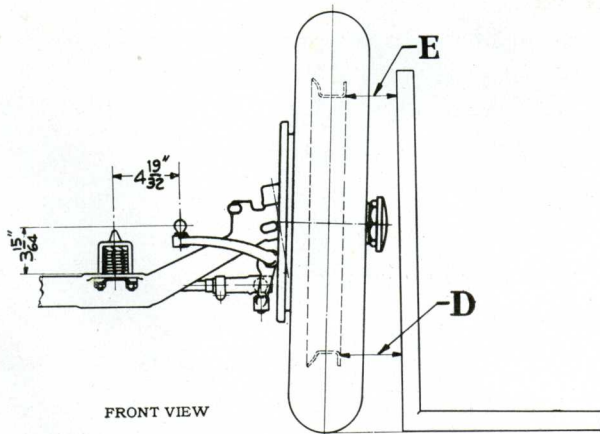

Fig. 63. Wheel Camber.
See Fig. 63.
11. CHECK HEIGHT OF STEERING ARM BALL. Steering arm ball should be  $3\frac{15}{64}$ " from spring pad. Check ball and bend steering arm if necessary to raise ball. See Fig. 63.